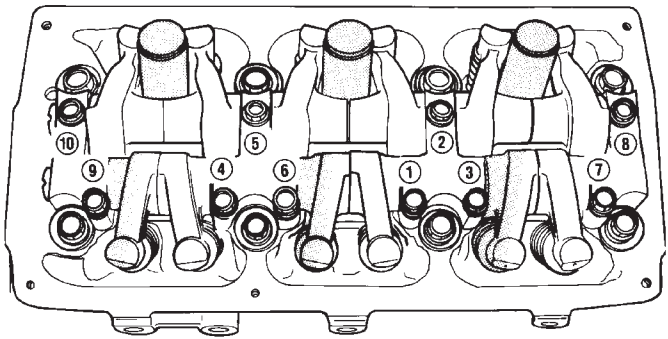

Fig. 56 Rocker Arm and Shaft Assembly Attaching Bolts Torque Sequence
(2) Install the rocker arm and shaft assembly making sure that the identification marks face toward the front of engine for left head and toward the rear of the engine for right head.
(3) Tighten bolts in sequence to 31 N·m (275 in. lbs.) (Fig. 56).